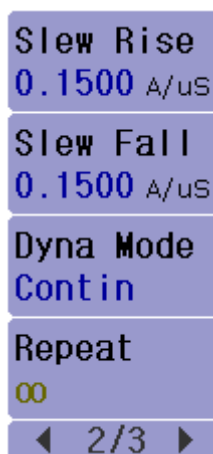

Figure3-2
3. The parameter setting area is shown in Figure 3-2. Rotate the **knob** to move the cursor to the corresponding setting item, enter the value or select the corresponding function according to the **soft key bar**.